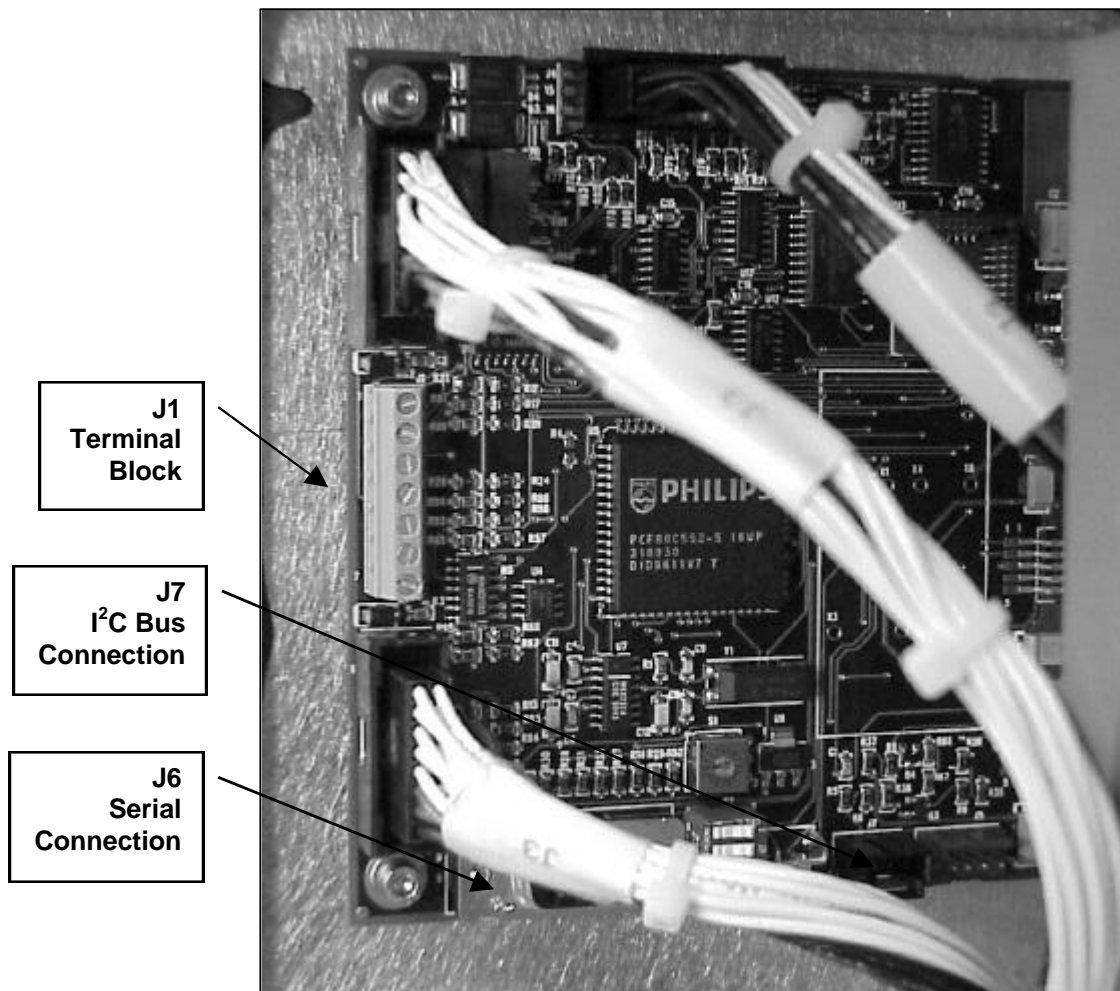

Figure 3-4. Logic Controller Board
1. Using the supplied serial cable, connect the PC COM PORT to J-6 on the controller board (see Figure 3-4 on Page 22).